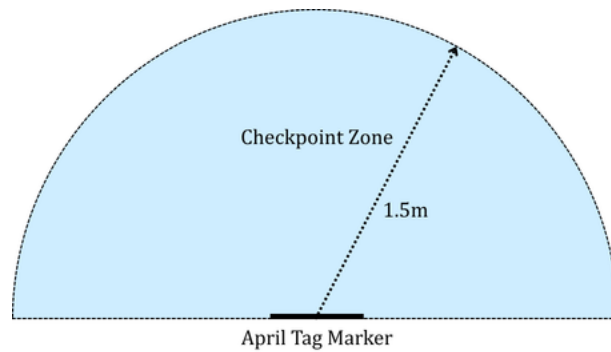

Figure 3: Checkpoint zone
- The exact location of the checkpoint is to be marked by the rover during the initial exploration phase. The checkpoint is to be noted within a zone defined by a 1.5m-radius semi-circle centred on the base of the marker, in the direction the marker faces, as shown in Figure 3 below.